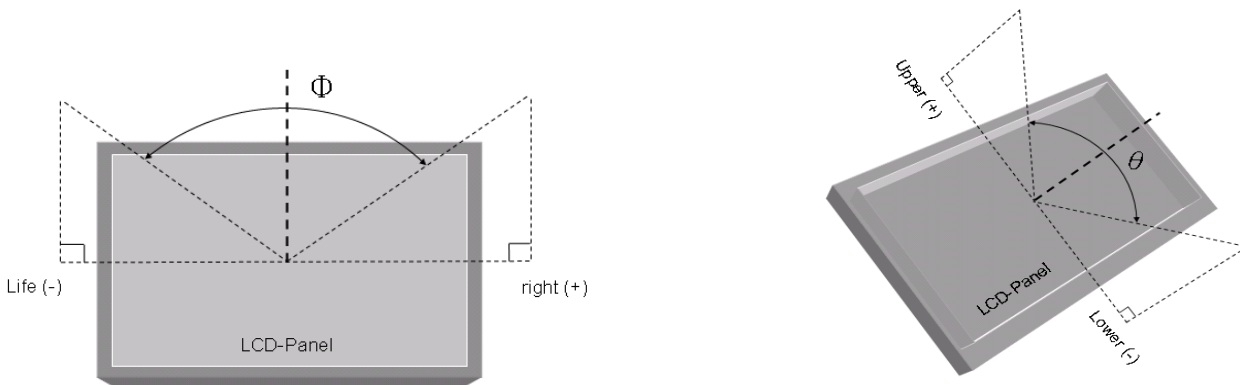

Fig8-2 Definition of Viewing Angle
- \*4) Definition of Viewing Angle( $\theta, \psi$ ), refer to Fig8-2 as below :